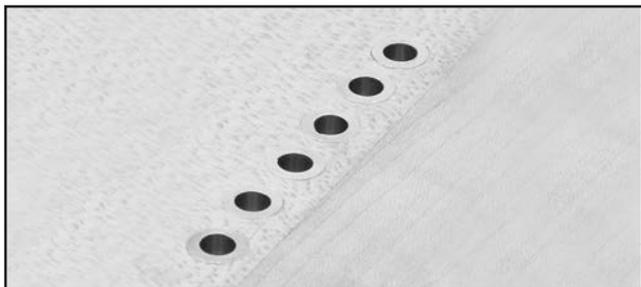
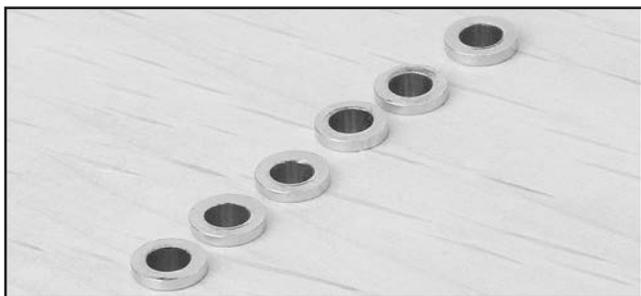

Figure 16. Flush mounted ferrules.
Figure 17. Above surface mounted ferrules.
The strings can be installed optionally through the body using the ferrules. One advantage of using the ferrules is that the strings will sustain notes longer. Ferrules can be mounted flush (see **Figure 16**) or above the surface of the guitar (see **Figure 17**).
4. Set the ferrules into the holes so they are flush with the surface of the guitar (see **Figure 16**).
4. Set the ferrules into the holes (see **Figure 17**).